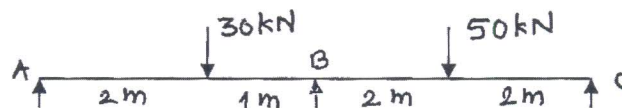

Fig. 3
3. (a) Analyze the two span continuous beam ABC, using three moment theorem. Refer Fig. 3 : [8]